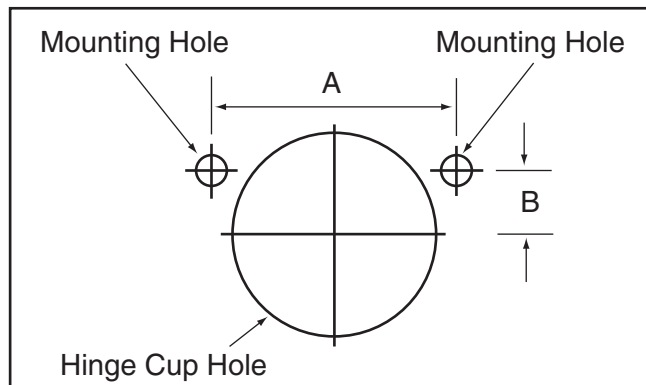

Figure 28. Dimensions required for matching hinge to boring head.
Measure (A) the center-to-center distance between hinge mounting holes, and (B) the distance between the center line of the hinge cup and a mounting hole (see **Figure 28**). Refer to **Accessories, Page 32** for boring head models.